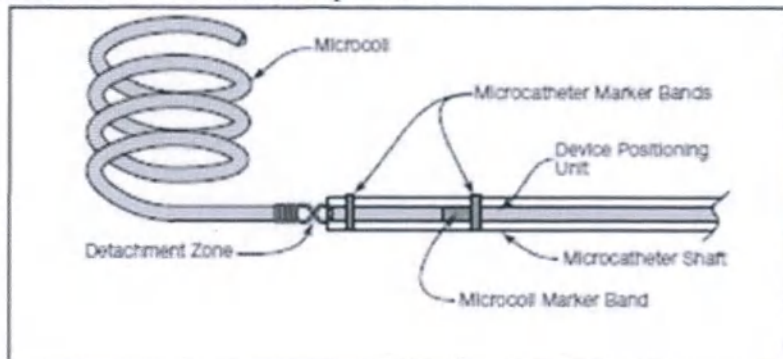

Figure 6: Proper Marker-Band Alignment
1. The proper alignment of the marker bands is illustrated in Figure 6. The infusion microcatheter has two distal tip marker bands located three (3) cm apart. The Microcoil System has a distal marker band three (3) cm from the detachment mechanism. To obtain proper positioning of the Microcoil System for detachment under fluoroscopic guidance, align the radiopaque marker on the DPU wire just past the proximal marker band on the tip of the microcatheter.